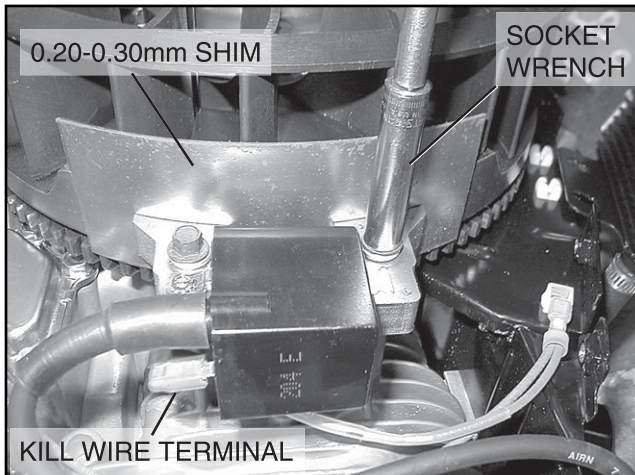

Figure 2-3. Adjusting Air Gap
2. Place thickness gauge, 0.20-.30 mm (.008"-.012") between magnet and armature laminations, Figure 2-3.